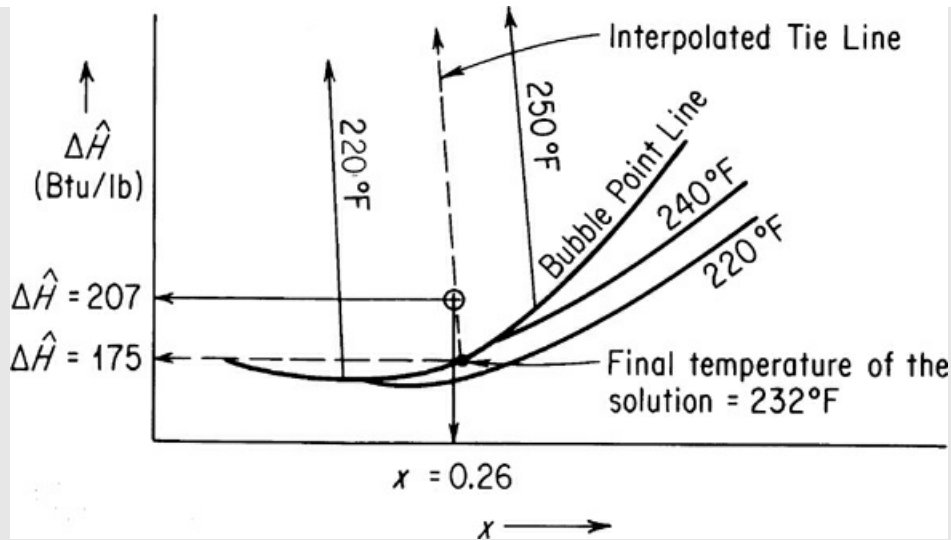

Figure E12.3
On the enthalpy-concentration chart for NaOH-H₂O, for a 26% NaOH solution with an enthalpy of 207 Btu/lb, you would find that only a two-phase mixture of (1) saturated H₂O vapor and (2) NaOH-H₂O solution at the boiling point could exist. To get the fraction H₂O vapor, you have to make an additional energy (enthalpy) balance. By interpolation, draw the tie line through the point $x=0.26$, $H=207$ (make it parallel to the 220°F and 250°F tie lines). The final temperature of the tie line appears from Figure E12.3 to be 232°F; the enthalpy of the liquid at the bubble point at this temperature is about 175 Btu/lb. The enthalpy of the saturated water vapor (no NaOH is in the vapor phase) from the steam tables at 232°F is 1158 Btu/lb. Let x =pounds of H₂O evaporated.